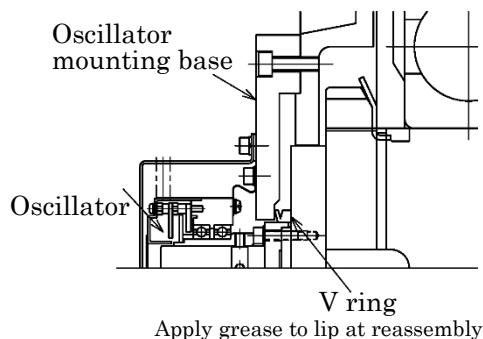

Fig.10 Position of V ring at non-load side
- (5) Loosen about 3 turns the 2 setscrews fixing the pulse oscillator rotor to the motor shaft and remove pulse oscillator. (Do not take off the setscrews.) However, an adhesive (TB1342H) is used to prevent the set screws from loosening. Before removing the set screws forcibly, warm them up to about 100°C using a thin soldering iron and then remove them.
- (6) Remove the fixing screws of the pulse oscillator mount, and remove that mount. When the mount is removed, mark the matchmarks. (For EDM22~EDM68, it is unnecessary to remove the pulse oscillator mount.)
- (7) Remove the V-ring. Refer to Fig. 10 for motors with encoder only (EDM3551V and EDM3561V, EDM43 to EDM68), and motors with encoder and electromagnetic brake. At that time refer to Table 6 for the V-ring type on the non-load side.